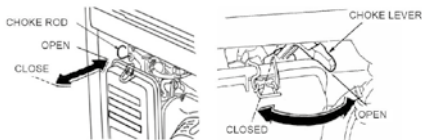

Fig. 9
4.8 Once the engine is started, set the choke lever to ON position. (Fig. 9)